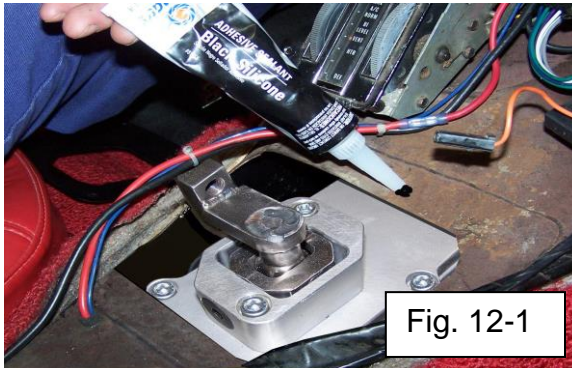

Fig. 12-1
- Apply bead of Permatex Black Silicon Adhesive Sealant #81158 (or equivalent) to top surface of tunnel console within the previously marked outline of patch panel. See Fig 12-1. Press patch panel into place to form tight bond with tunnel.